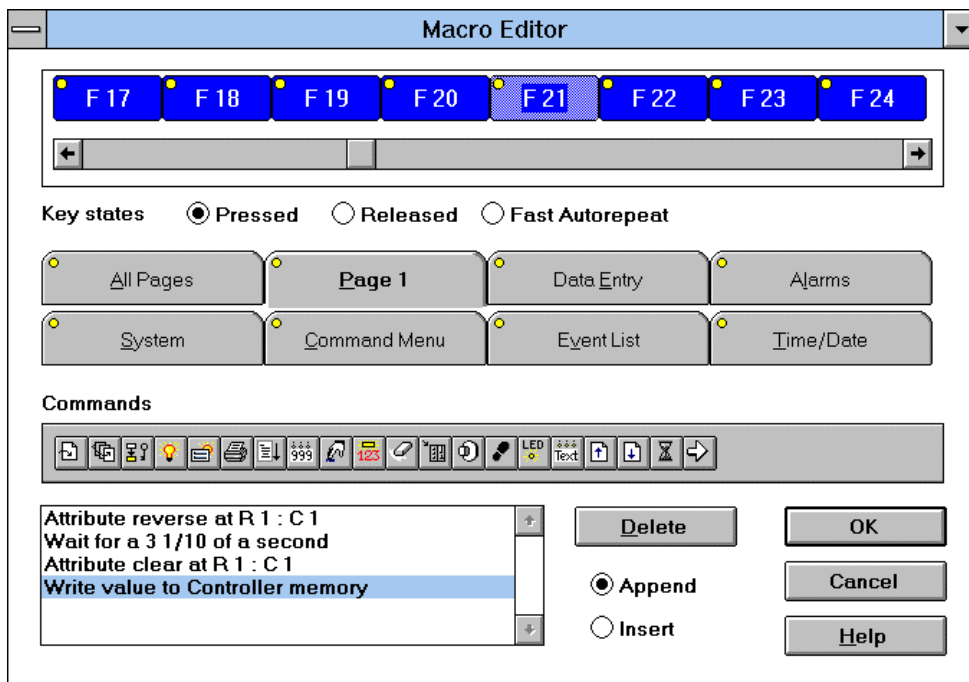

Figure 14-20
10. The macro screen should look as shown below in Figure 14-20.